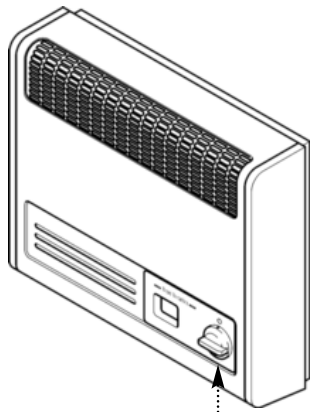

Fig. 1
1. The appliance is controlled by a knob which is positioned at the lower right on the front of case (Fig. 1).